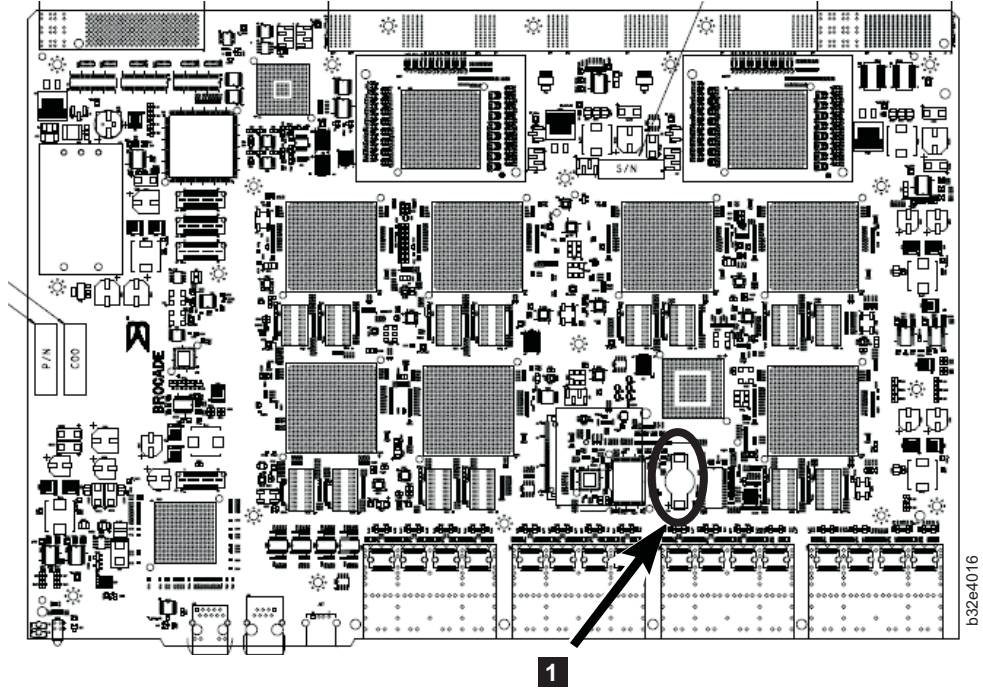

Figure 53. Encryption blade battery location
7. For the optional FS8-18 encryption blade, go to the BC1 location (see **1** in Figure 53 on page 114) on the main board and remove the BR1225 battery.